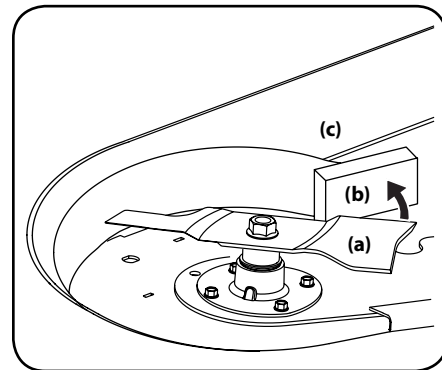

Figure 4-17
3. Wrap a rag around one end of the blade (a) and grasp it to prevent it from turning, or secure the blade (a) by placing a block of wood (b) between the blade (a) and the deck housing (c). See Figure 4-17.